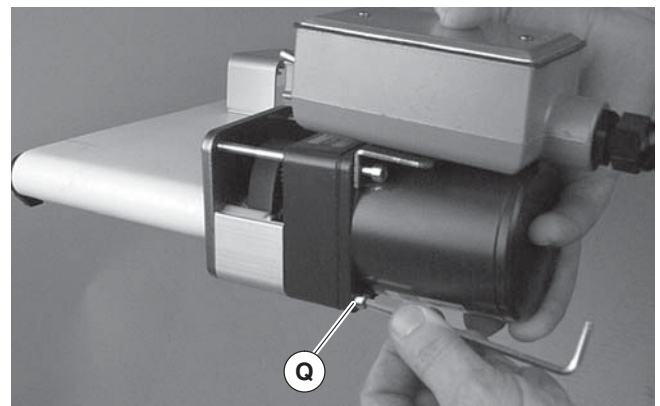

Figure 13
5. Place new timing belt (M) over driven pulley (J) and between belt flanges (S).
6. Insert gearmotor drive pulley into timing belt. Mount assembly with two (2) bottom screws (Figure 13, item Q). Tighten to 45 in-lb (5 Nm).